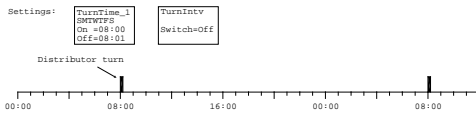

Fig. 3.5c
- First enter the time the interval starts with parameter *TurnTime*. See fig. 3.5c